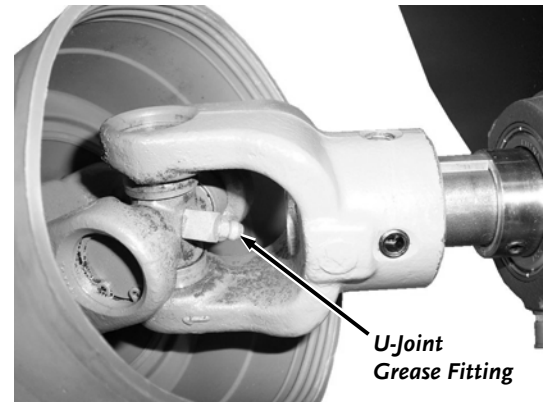

Figure 36
2. Apply no more than three pumps of quality general-purpose lithium grease with a hand-pumped grease gun to each of the two U-Joint Grease Fittings (Figure 36).